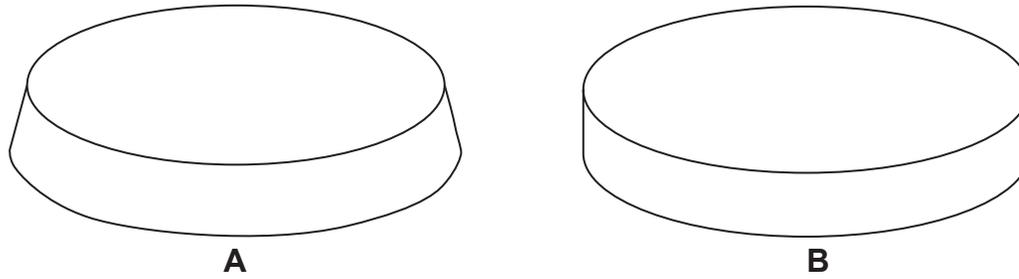

Fig. 5
- 7 Fig. 5 A and B show sketches of two possible moulds to be used in a vacuum forming process.